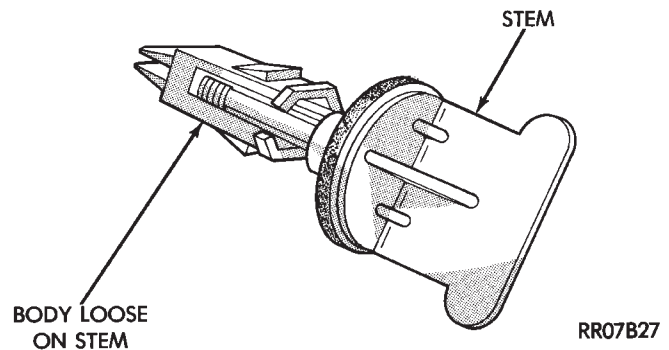

Fig. 46 Draincock Assembled for Installation
(1) Install draincock stem loosely into body (Fig. 46). The draincock assembly cannot be installed if stem is threaded into the body.